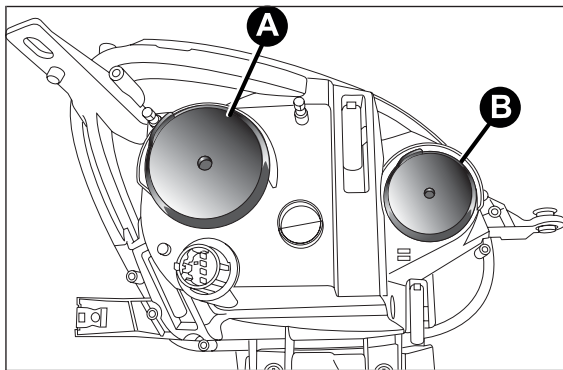

fig. 115
These contain the bulbs for the dipped beams, main beams and direction indicators. The bulbs are arranged as follows fig. 115:
- ☐ remove cover A fig. 115;
- ☐ then refit the cover A fig. 115.
- ☐ remove cover B fig. 115;